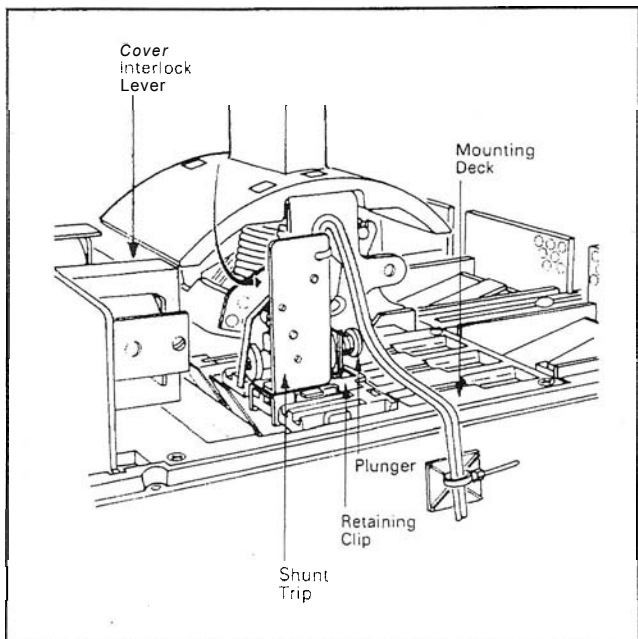
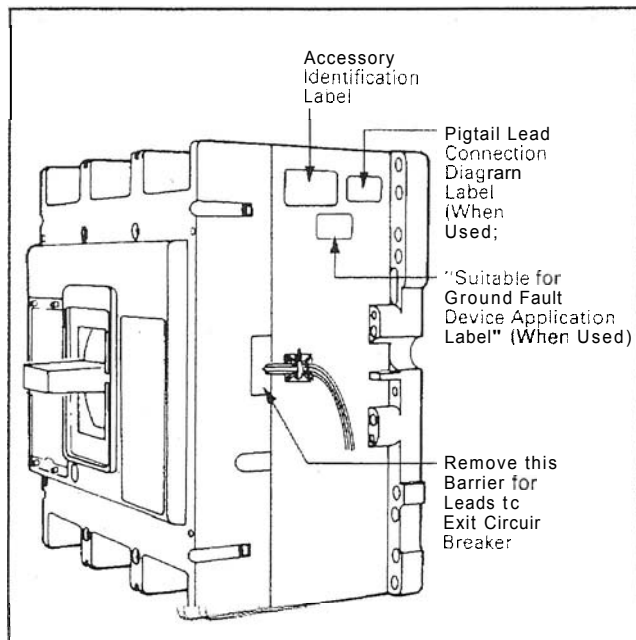

Fig. 2-3 Shunt Trip Positioned and Locked in Mounting Deck.
Fig. 2-4 Preferred Mounting Locations for Accessory Nameplate Labels.
- Slide the shunt trip toward the line end of the circuit breaker until the retaining clip snaps into recess in deck (see Fig. 2-3).
2-6. Attach cable tie mounting pad to side of circuit breaker (See Fig. 2-4 for location). Route leads to mounting pad. Ensure leads line up with slot in cover and are clear of all moving parts. Secure leads to mounting pad with cable tie. Leads from multiple accessories may be secured by a single cable tie and mounting pad (see Fig. 2-3).
2-7. Remove barrier indicated in Fig. 2-4 from cover accessory lead slot.
the handle (see Fig. 2-3). Use a tool to depress and hold the lever even with the top of the circuit breaker base while performing mechanical tests.
- b. Using a small flat-blade screwdriver, depress shunt trip plunger (Fig. 2-3). Circuit breaker should move to trip position.
- 2-11. Position accessory labels supplied with kit on circuit breaker as shown in Fig. 2-4.